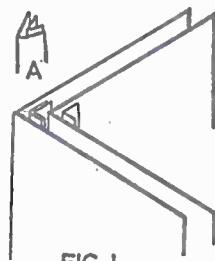

FIG. 1
Cut the paper into double sheets, and for each pair (i.e. 4 sheets), provide two guards, these being doubled strips of the paper, to be interposed between, to counterbalance the scraps afterwards pasted in the book, and render all level. One guard will be a strip 1 1/2 ins. wide, and then doubled; the other, as at (A), a 3 in. strip, doubled twice. Arrange these between the sheets as shown in Fig. 1, and call the lot one section.